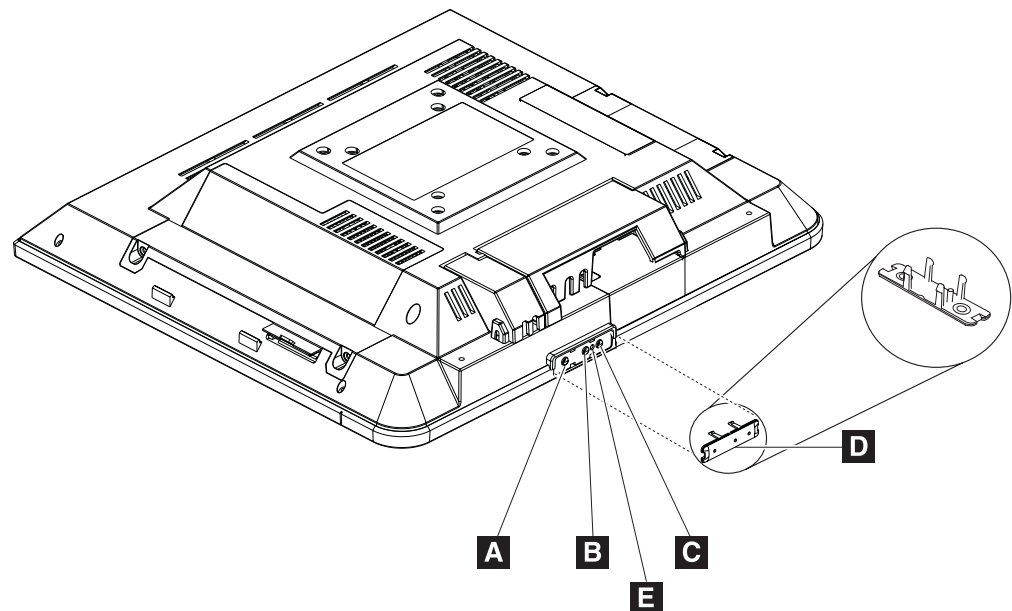

Figure 11. IBM 4836/4838 controls and installing the control cover
2. A small hole (**E** in Figure 11) under the control cover allows you access to the reset switch. Use a paperclip or other small tool to activate the switch.
3. Power on the IBM 4836/4838 using the power switch (see **A** in Figure 11). The 4836/4838 power light-emitting diode (LED) will initially appear green.
See Figure 11. To install the control button cover (**D**), follow these steps: